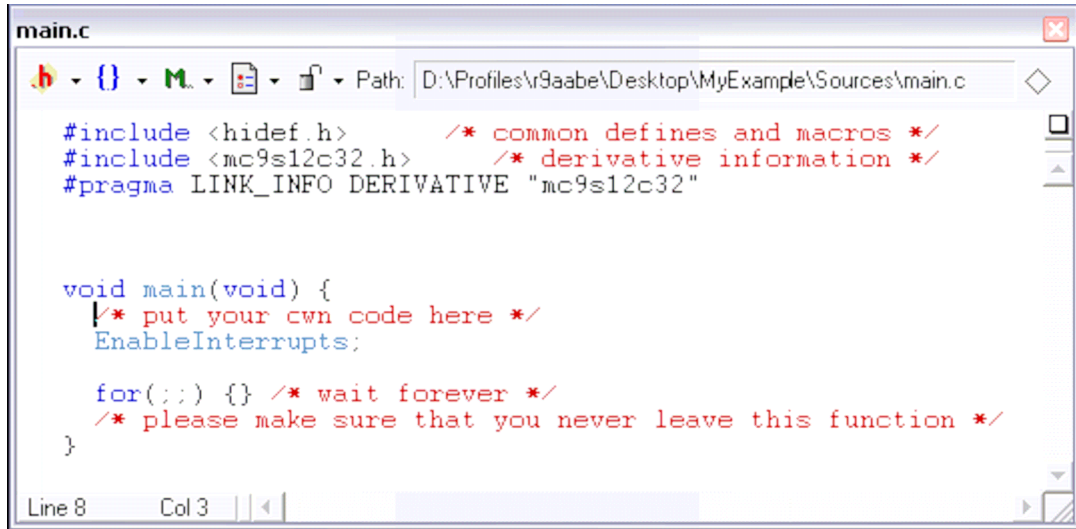

Figure 14. Editor Window - main.c
- 4.3 Double-click the main.c file. An editor window will open and display the contents of main.c (see Figure 14)